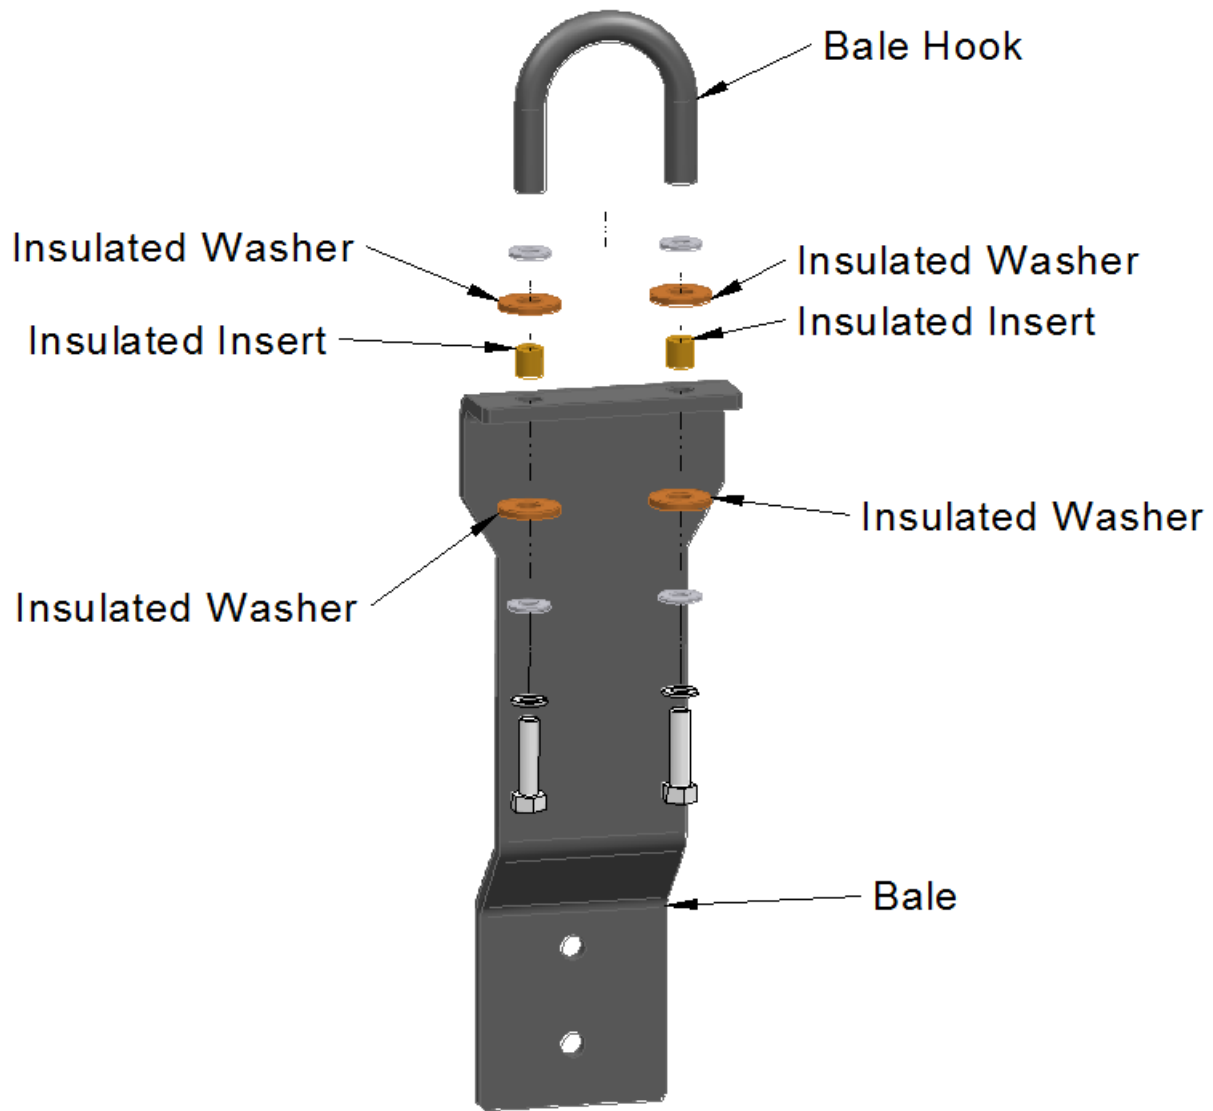

Figure 4
5. Remove the bale hook from the bale as shown in Figure 4. Save the insulated washers and the insulated inserts to be used later in the installation.